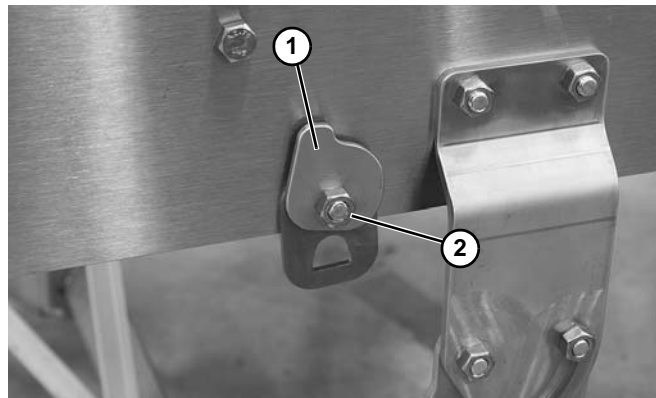

Figure 28
3. Install return clip (Figure 28, item 1) and loosely secure with nut (Figure 28, item 2).